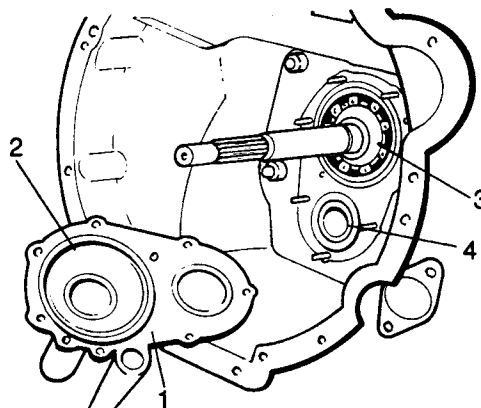

Fig H1.22
- (6) Refer to Fig H1.22. Remove the front cover (1) together with its gasket, removing first the fixing elements.
- (7) Remove the adjusting washers from the bearing of the primary shaft (3) and the front bearing of the layshaft (4) for its ultimate fitting.